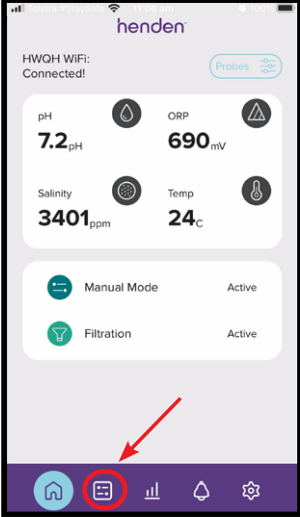

Figure 9.37
- Ensure Manual Mode is off (refer Section 9.2). To activate system mode, go to the “modes” menu by using the modes button (refer Figure 9.37).